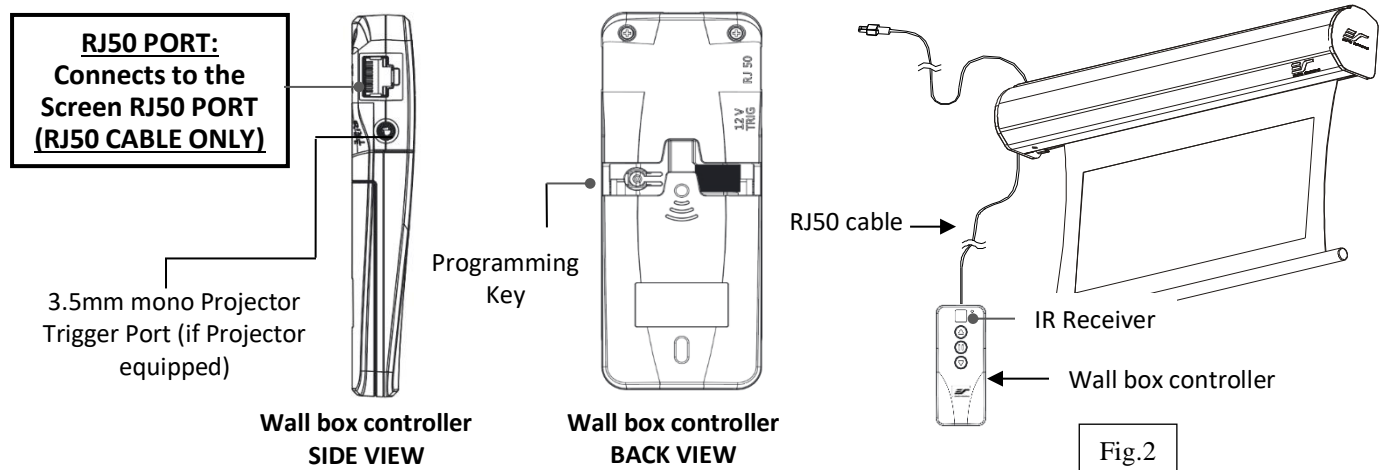

Fig.2
3. Wall box controller (Item C, Fig 2): The wall box controller switch is a wall mounted control box with an up/stop/down button. It plugs directly into the screen's RJ50 port.